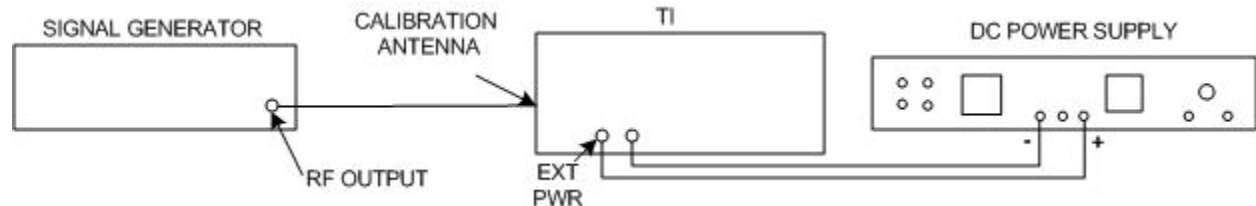

Figure 3. Threshold point - equipment setup.
- (7) Set signal generator frequency controls for 243.0 MHz output and adjust amplitude output controls to same value as recorded in table 4 for signal generator amplitude output indication for test setting of 19.1 dBm.
- (8) Set measuring receiver to measure frequency then power level.
- (9) Adjust antenna load carriage assembly for a minimum indication on measuring receiver **FREQUENCY/LEVEL** display (-9.2 dBm maximum).
- (10) Press signal generator **RF OFF/ON** key to **OFF** position.
- (11) Connect equipment as shown in figure 3.
Ensure equipment is setup as shown in figure 3.